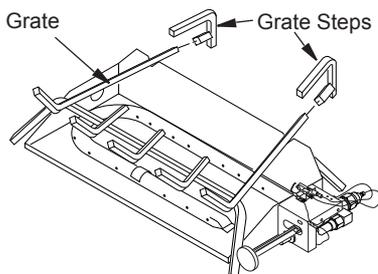

Figure 8 - Installing Grate (Pan Material Not Shown)
2. Slide two rear log grate steps over two outer horizontal supports on grate as shown in Figure 8.